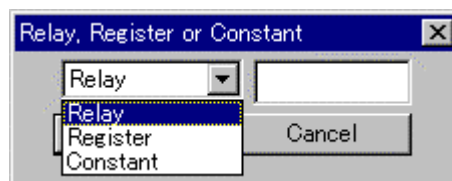

Fig. 20-2 “Relay, Register or Constant” Dialog Box
2. When the dialog shown in Fig. 20-2 appears, enter the type of the value and the set value to be searched and click the [OK] button.